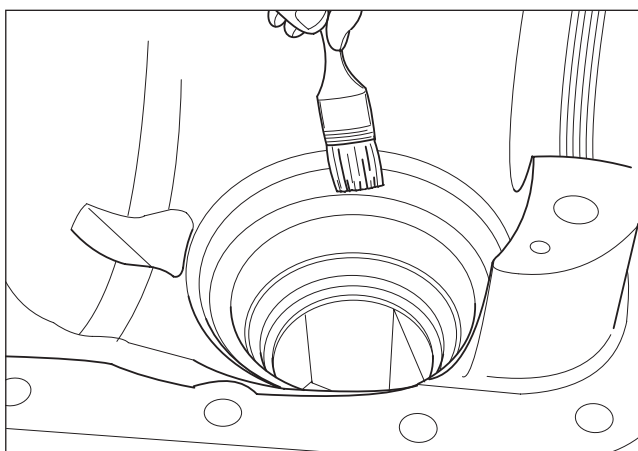

Fig. 2.41
2. Lubricate counterbore in carrier. (Fig.2.41)